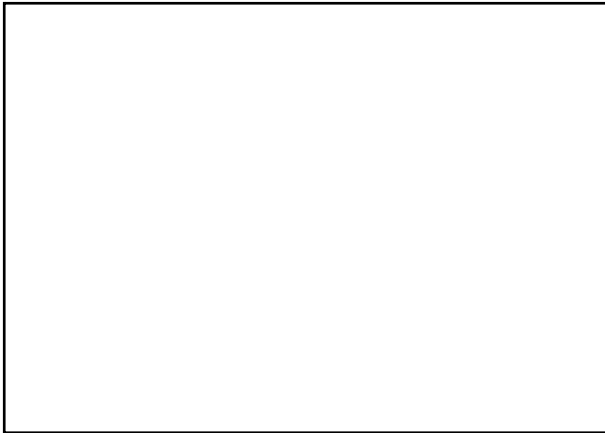

Fig. 1
- Check that the blade slewing gear (Fig. 1) is in a horizontal position.
- Check the oil level. It must reach the centre of the sight glass (3, Fig. 1).
- Fill up with gearbox oil if necessary. To this end, unscrew screw plug (2) and pour gearbox oil into the bore.
- Unscrew drain plug (1, Fig. 1), the oil drains off.